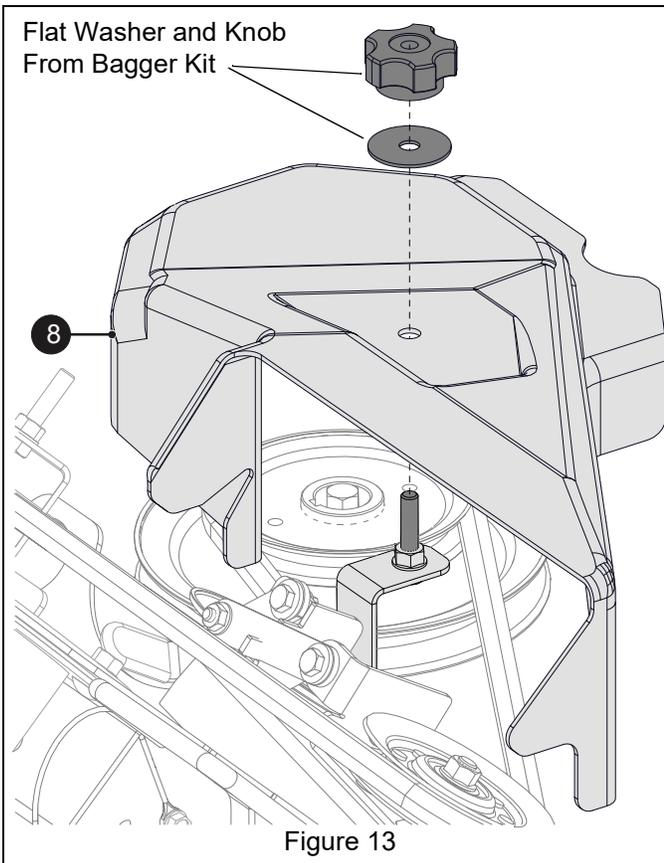

Figure 13
6. Install belt cover (item 8) on bracket and secure with one 1 1/2" washer and one knob from bagger kit. See Figure 13.